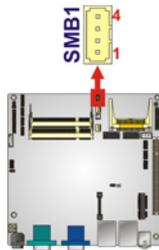

Figure 3-18: SMBus Connector Locations
- CN Location:** See **Figure 3-18**